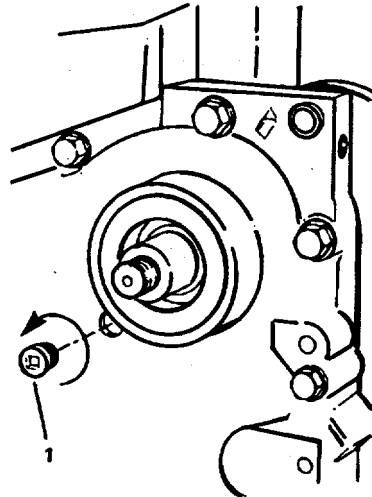

FIGURE 3-42. Inspection Hole.
- c. Use a puller and remove the accessory drive pulley (14).
- d. Remove the inspection hole plug (1, FIGURE 3-42) in the gear cover.
- i. Install and tighten the plug (FIGURE 3-42) to 20 ft-lb torque.